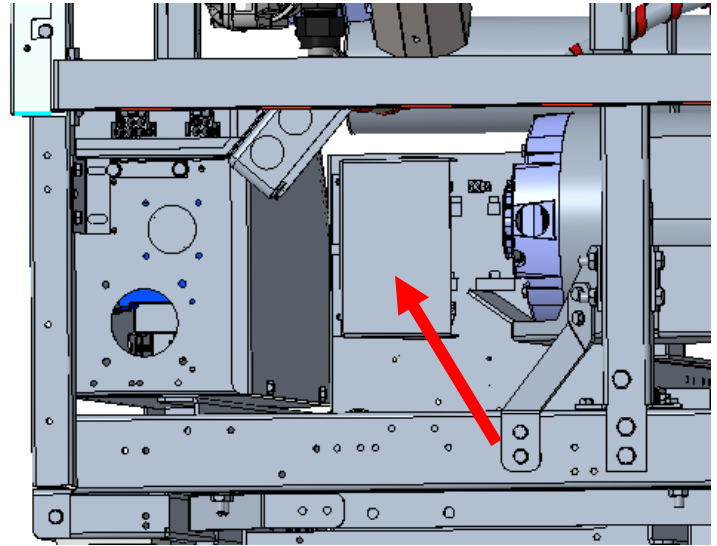

Fig 6
7. Reinstall ATO box cover from step 3, then remove the wire shield cover from the rear of the box on 3000 fryers (Fig 6). **Skip to step 9 for Touch Screen fryers.**